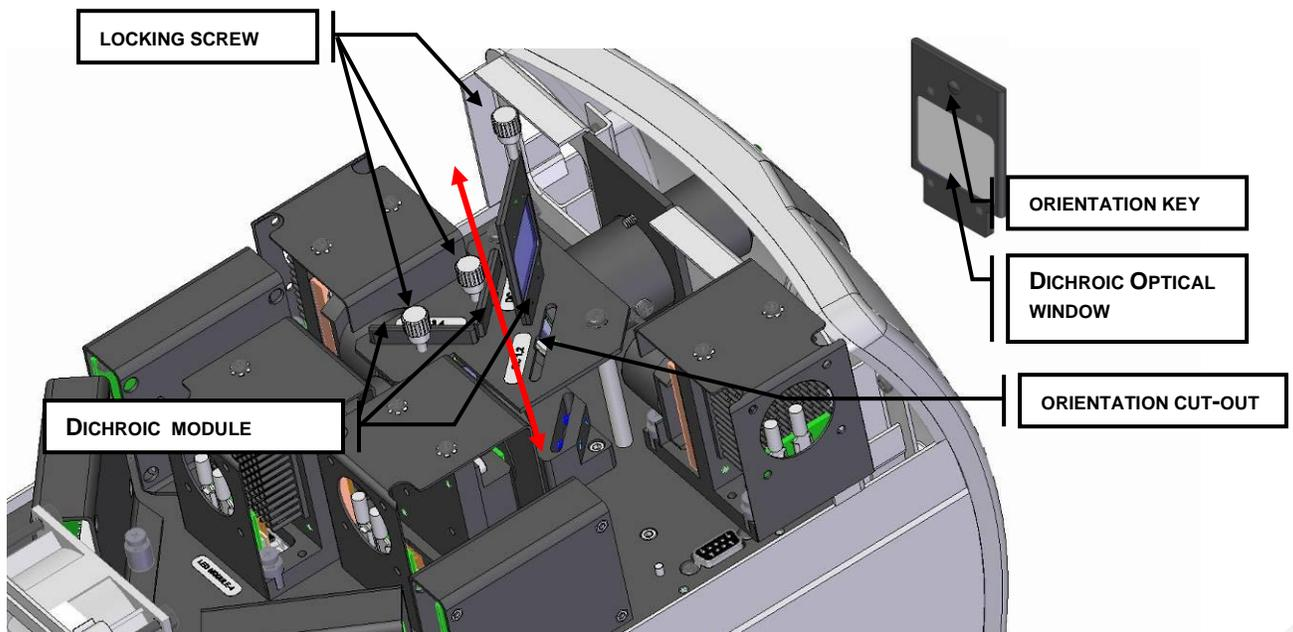

Figure 33 Dichroic Replacement
- 11.1.3 Remove the plastic locking screw and gently pull out the module, avoid touching the Dichroic optical window with fingers, microscope immersion oil, or any abrasive object. Refer to section 12.3 for handling and cleaning instructions. Note the orientation of the Dichroic when removing, there is a notched cut-out on the top plate which allows the Dichroic's orientation key to pass through, subsequently preventing the Dichroic from being replaced incorrectly. Refer to Figure 33.